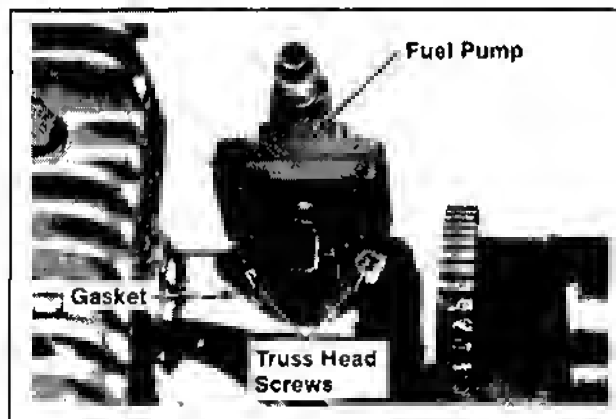

Figure 11-40. Installing Fuel Pump.
1. Install the gasket, fuel pump, and truss head screws. Refer to Figure 11-40.